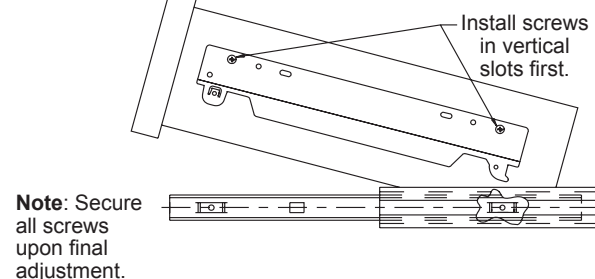

Figure 4
1. Locate large slide members on cabinet floor making sure slides are parallel. Secure in place. See Figure 4.